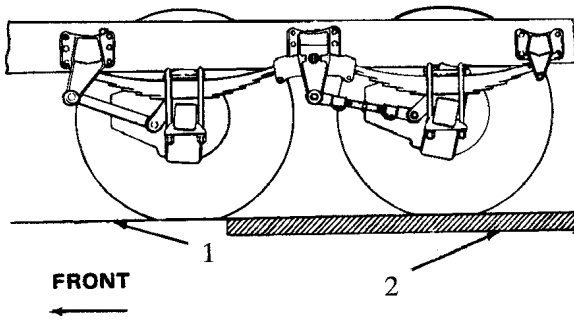

Figure 30 Weighing The Rear Rear Axle
4. To weigh the rear rear axle, the flat portion of the tire tread of the forward rear axle should be just at the opposite edge of the scale, as in Figure 30 .